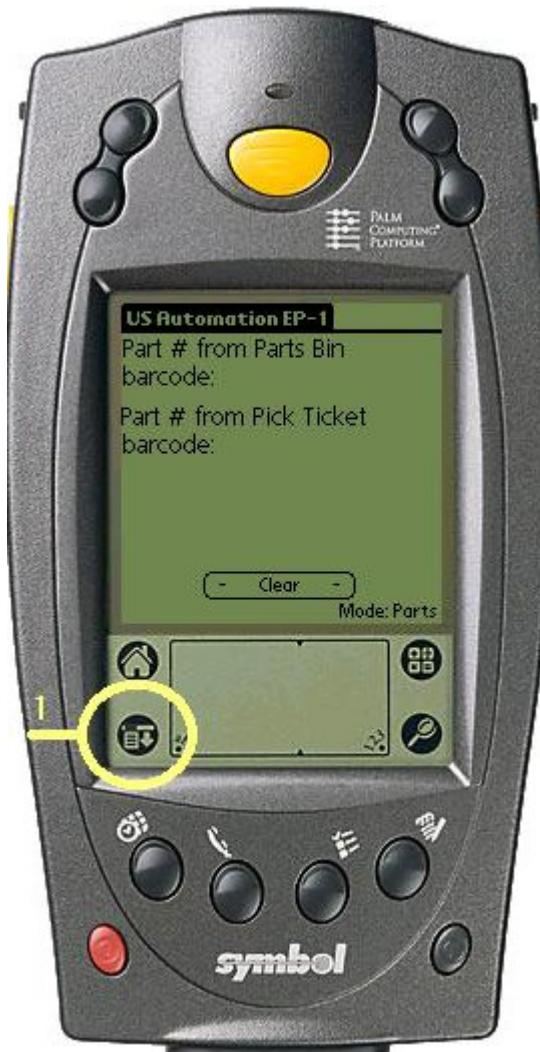

FIGURE 5. OPTIONS MENU
Then press the options button (Menu Icon) figure 5, item 1 shown below.
Press the Options button (Menu Icon, see figure 5, item 1).